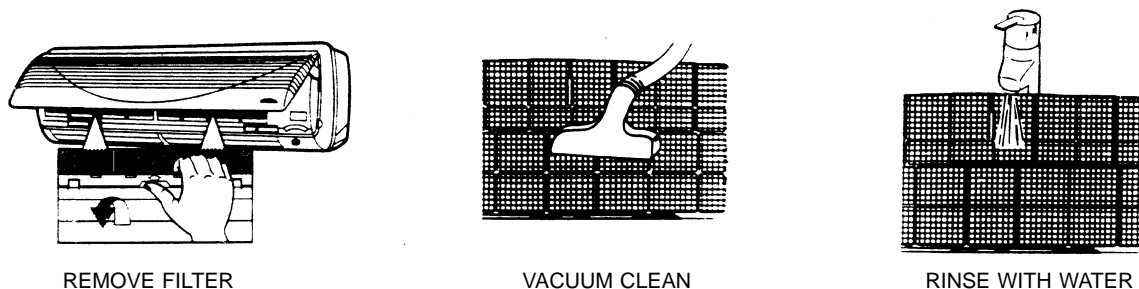

Fig. 24 — Air Filter Maintenance
1. Open fan coil unit front panel (lift). See Fig. 24.
TO CLEAN OR REPLACE FILTERS — Filters should be vacuumed and washed with warm water (see Fig. 24). Shake filter to remove any excess water, dry thoroughly, and replace by sliding filter behind front grille until filter snaps in place.